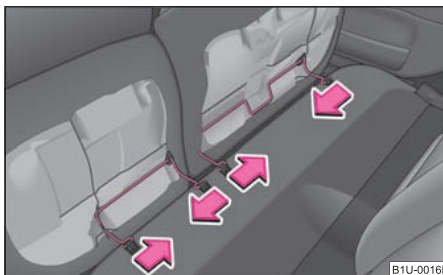

Fig. 67 Removing seat cushions
- Press the wire clamps in the direction of the arrow ⇒ fig. 67 and remove the seat cushion from its holder.